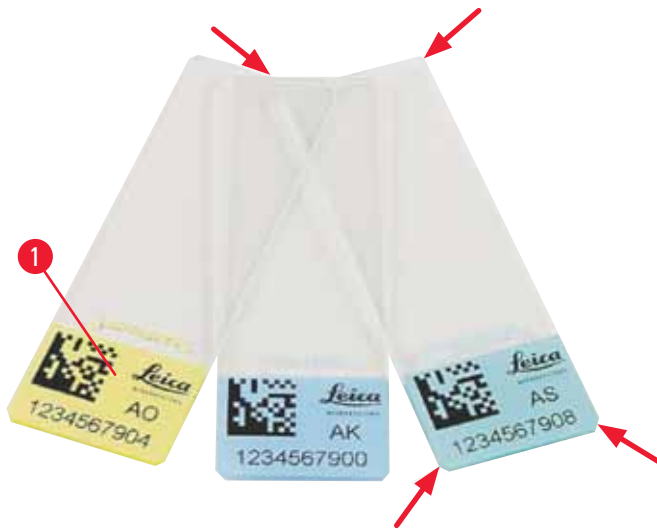

Fig. 4
Only standard specimen slides with imprintable colored edges (→ "Fig. 4-1") can be imprinted in the Leica IP S (→ "Fig. 4").
- To reduce the amount of glass dust and the risk of mechanical failures, use only clipped corner slides (45° angle on each corner, (→ "Fig. 4")).